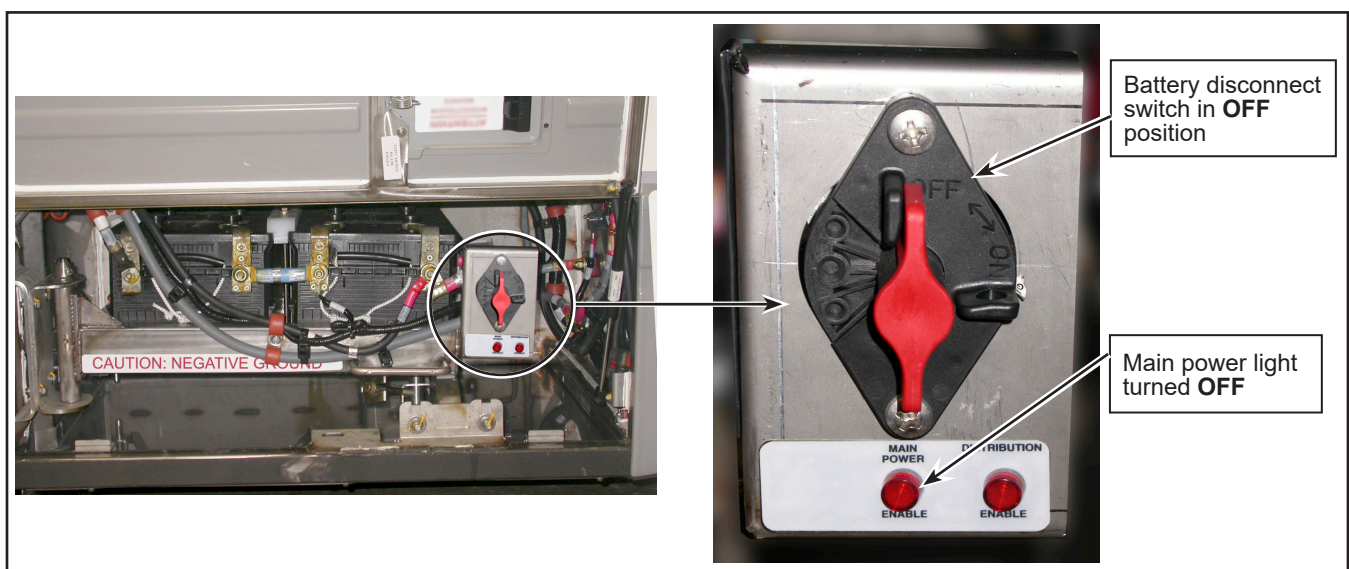

Figure 2 - View of Battery Disconnect Switch
- 1.4. In the battery compartment, put the battery disconnect switch in the **DISABLE** position (**OFF**) (see figure 2).